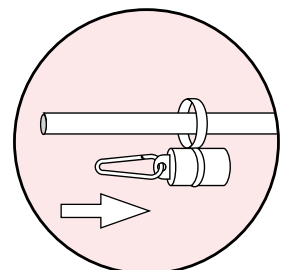
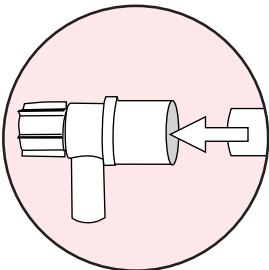
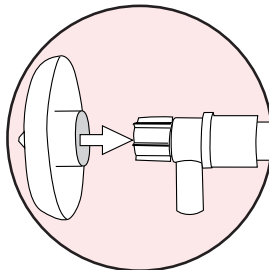

Fig 4a.
Fig 4b.
Fig 4c.
4. Place weight over the pole (see Fig 4a), mount the rotating joint onto the top of the pole (see Fig 4b), push on the finial. (see Fig 4c)